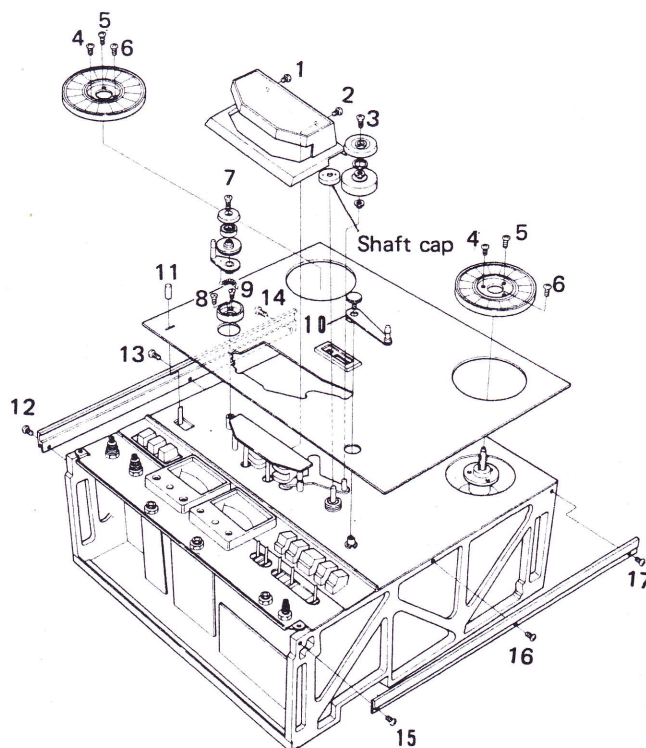

Fig.17
4.4 MECHANICAL PANEL (Fig. 17)